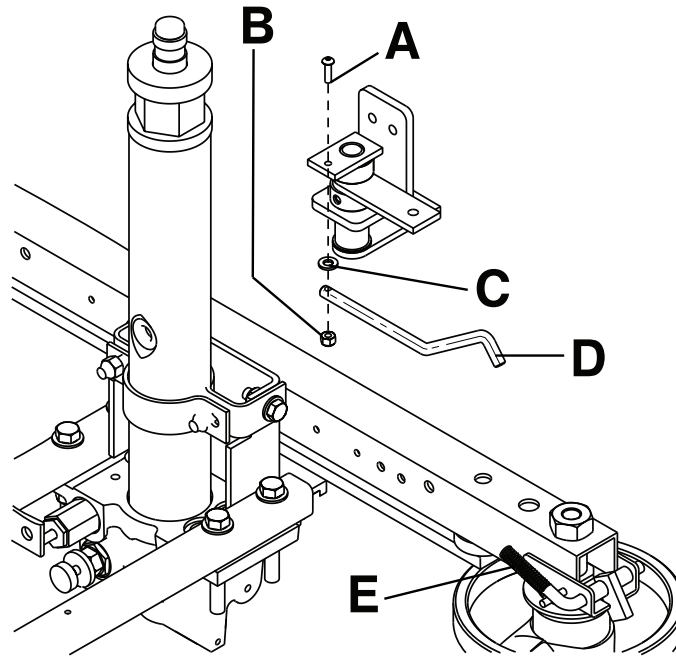

Figure 2 – Steer-Lock spring replacement
4. Using a 3/32" hex wrench and an 11/32" combination wrench, remove the bolt (A), washer (C), and nut (B) that secure the **Steer-Lock** arm (D) to the base (Figure 2). Save all parts.
5. Grasp the extension spring (E) and twist the **Steer-Lock** arm back and forth to remove the **Steer-Lock** arm from the extension spring.